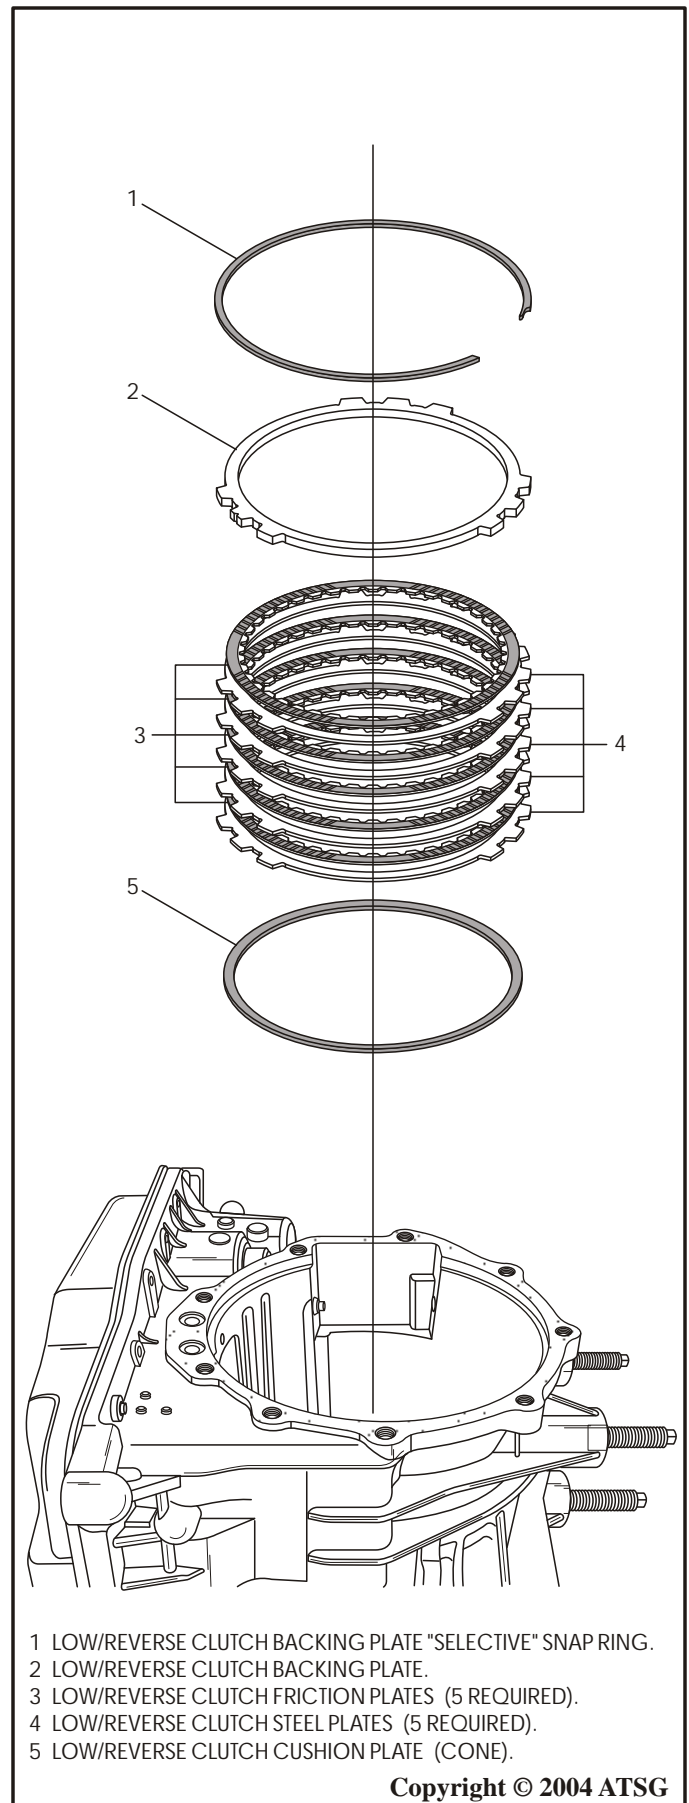

Figure 31
20. Remove the low/reverse clutch backing plate snap ring, as shown in Figure 31.
21. Remove the low/reverse clutch backing plate, as shown in Figure 31.
22. Remove the low/reverse clutch plates, as shown in Figure 31.
23. Remove the low/reverse clutch cushion "cone" plate, as shown in Figure 31.